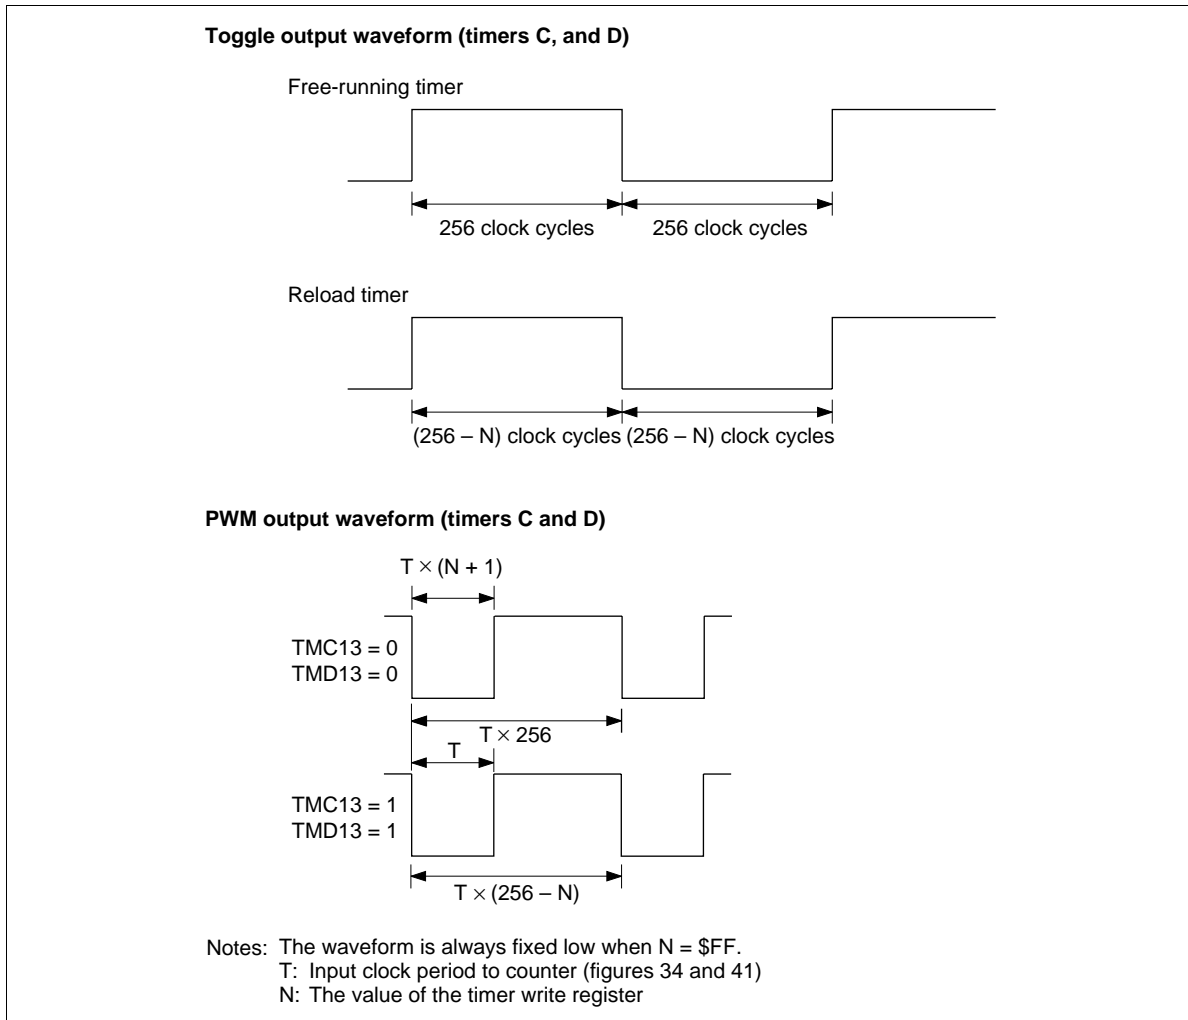

Figure 33 Timer Output Waveform
- Toggle output: When toggle output mode is selected, the output level is inverted if a clock is input after timer C has reached \$FF. By using this function and reload timer function, clock signals can be output at a required frequency for the buzzer. The output waveform is shown in figure 33.
- PWM output: When PWM output mode is selected, timer C provides the variable-duty pulse output function. The output waveform differs depending on the contents of timer mode register C1 (TMC1: \$00D) and timer write register C (TWCL: \$00E, TWCU: \$00F). The output waveform is shown in figure 33.